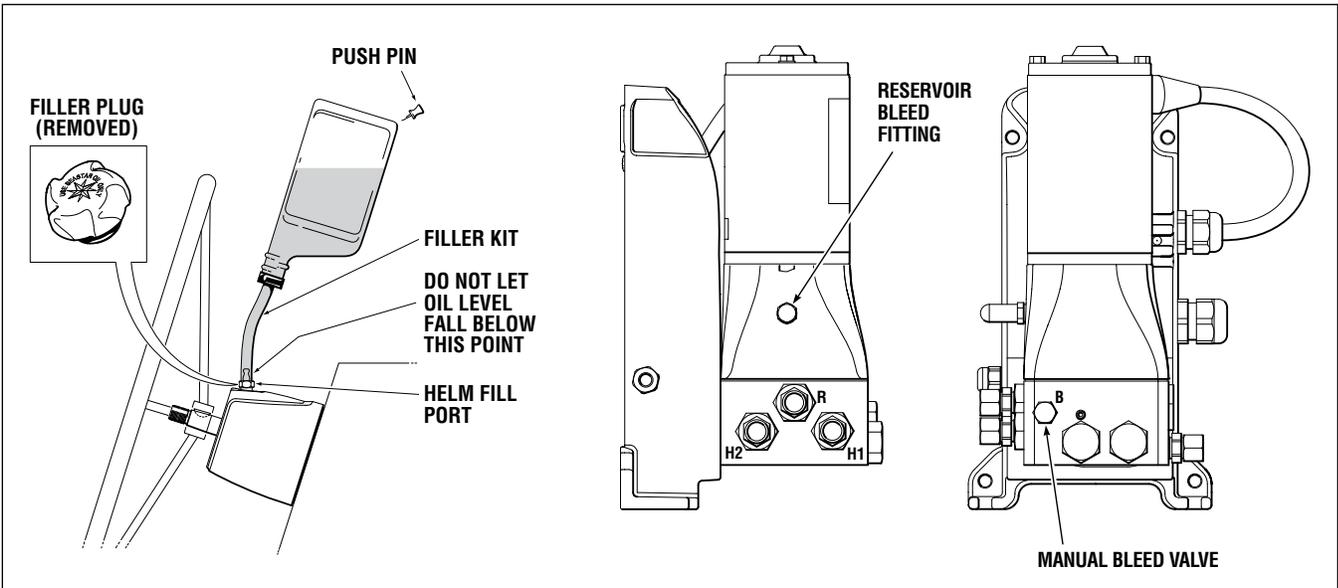

Figure 27.
- Connect one of the fluid return hoses (cylinder lines) from the Power Purge unit to the Reservoir bleed fitting on the P/A unit. (see Figure 27 on page 29 for bleed fitting location).
2. Open the manual bleed valve and reservoir bleed fitting (see Figure 27) on the power assist unit. The manual bleed valve should be opened two full turns.